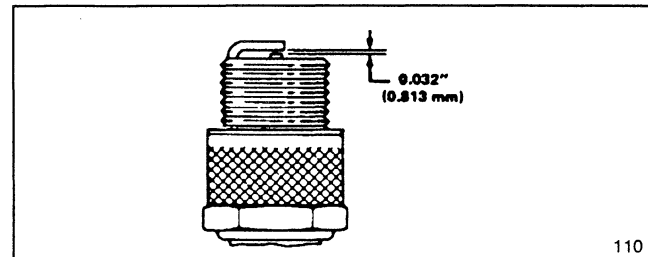

Figure 10
3. Set air gap at 0.032" (0.81 mm) (Fig. 10). Install correctly gapped spark plug and gasket seal. Tighten plug firmly to 10 ft-lb (13.6 N-m).